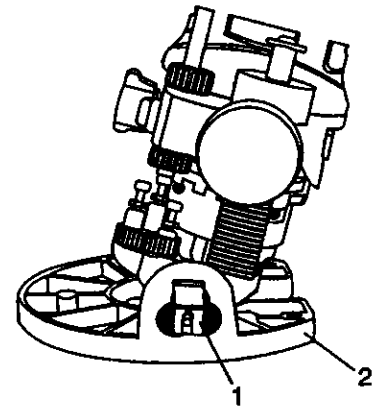

Fig. 18
- Loosen both bevel adjusting locks (1) by pulling them outward from the router base (2) (see Fig. 18)